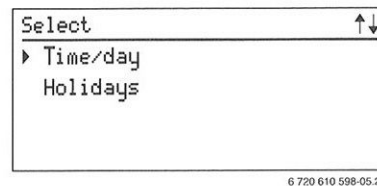

Fig. 37 Submenu: Time/day
- ▶ Press the  button to confirm the setting and return to the previous menu (Fig. 37 page 28).